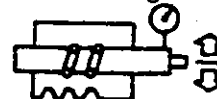

Fig.22
The friction torque of the recirculating ball element (111) must be measured in a horizontal position with tools [8], [9] and [10]. **Fig.22**. The tilting clearance must be measured in a horizontal position as shown in **Fig.22**.